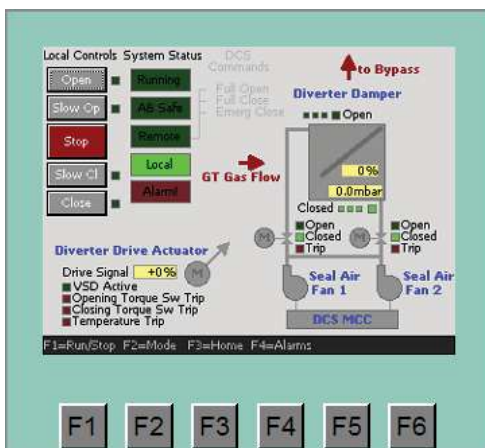

Fig 1. HMI Panel – Home Screen overview
The HMI (Human-Machine Interface) Panel indicates at a glance the operational status of the Diverter and its ancillary components, and provides local buttons for opening & closing the Diverter during commissioning and maintenance operations. All normally used functions are contained within the Home Screen, with an Alarm Screen providing specific information on any alarms that may be present. The typical arrangement of the Home Screen is shown in Fig 1 below.
- F3 – selects the Home Screen (as shown in Fig 1)